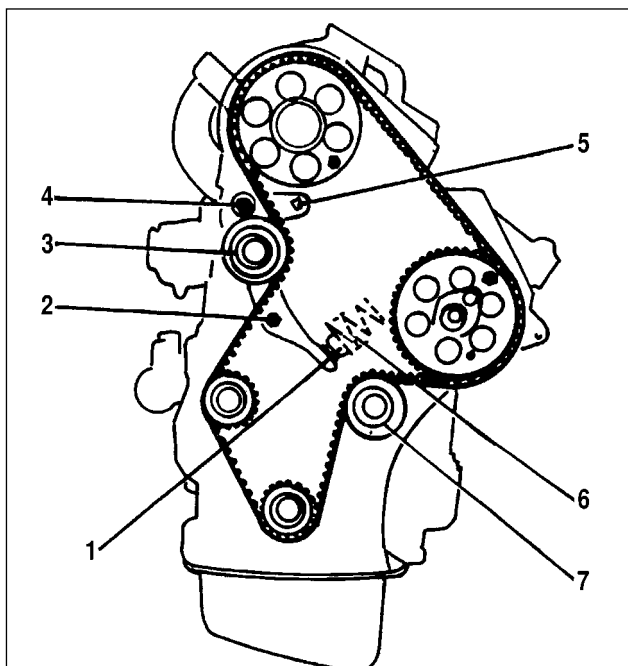

Fig.9-22. Removing and refitting the cambelt:
- loosen nut 2 and bolt 4 (Fig.9-22);
- make sure the camshaft and fuel pump pulleys are in the position required and secured, idler pulley 7 (Fig.9-22) and tensioner 3 rotate freely, while plunger 1 and spring 6 are free within the tensioner housing;